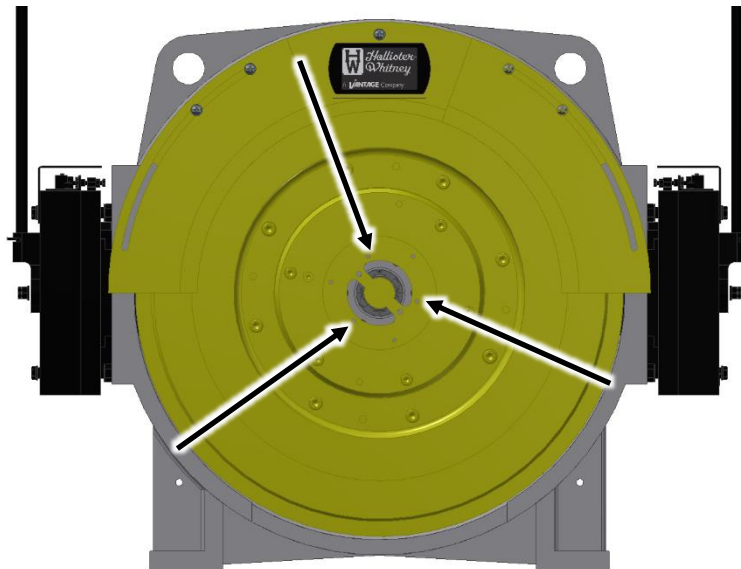

Figure 20
6. Insert M6 jack bolts in the encoder cover holes and jack the encoder mounting plate off. See Figure 20.